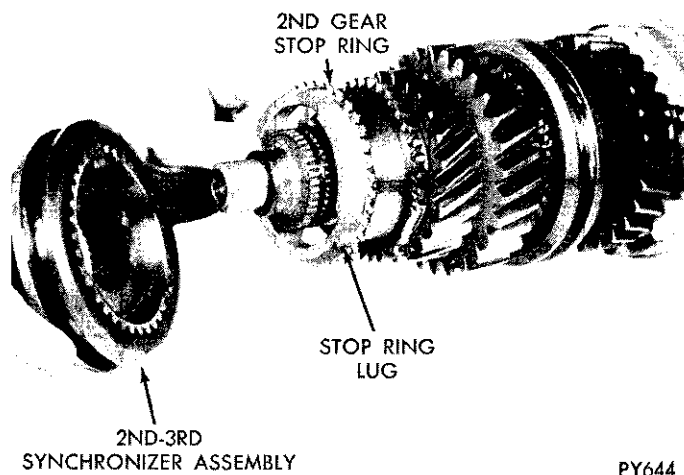

Fig. 15—2nd-3rd Synchronizer Assembly and Stop Ring—Removal or Installation
(2) Slide the 2nd-3rd synchronizer assembly off end of mainshaft along with the 2nd gear stop ring (Fig. 15).
(22) Install properly indexed stop ring and 2nd-3rd synchronizer assembly against second gear (Fig. 15).